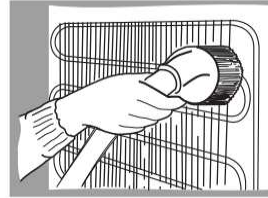

fig. 11
- Use a soft, dry brush, electrostatic cloth or Hoover for cleaning (**fig. 11**).